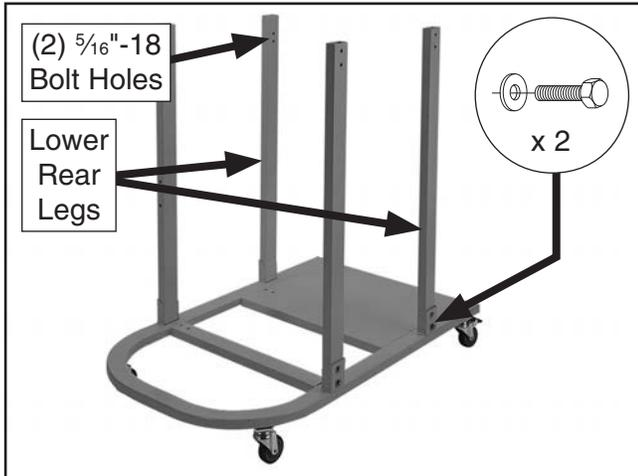

Figure 13. Lower rear legs installed.
- Attach (2) lower rear legs to base stand and finger-tighten each one using (2) $\frac{5}{16}$ "-18 x $\frac{3}{4}$ " hex bolts and (2) $\frac{5}{16}$ " fender washers (see **Figure 13**).